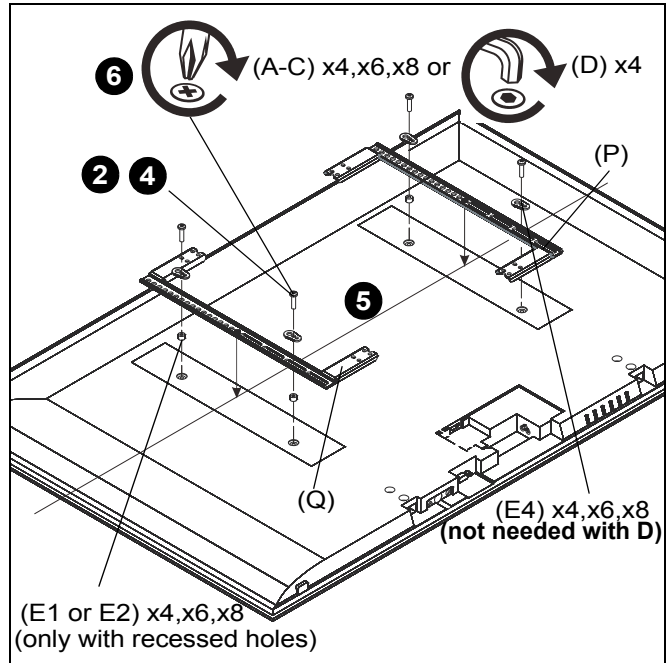
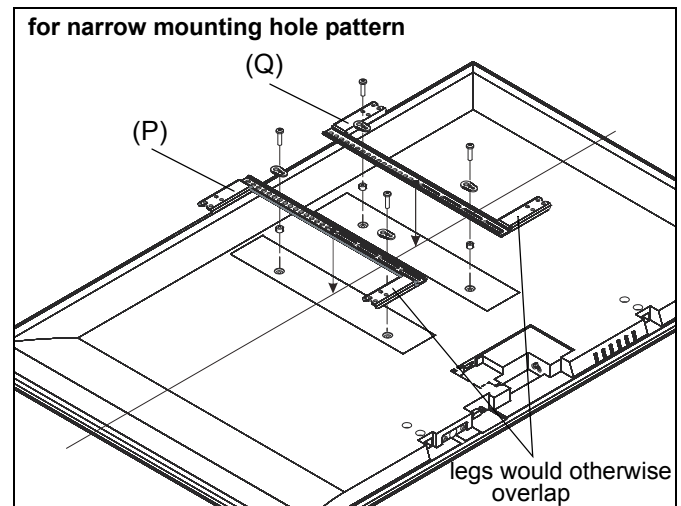

Figure 12
Figure 13
2. Select screw *diameter* by examining hardware (A-D) (4mm, 5mm, 6mm or 8mm) and comparing with mounting holes on display. (See Figure 12)
3. Select spacers: (See Figure 12)
4. Select screw *length*: (See Figure 12)
- NOTE:** Universal washers (E4) are not needed if using M8 button head cap screws (D).
5. Place uprights (P and Q) on display, ensuring: (See Figure 13)
NOTE: If installing to a display with a narrow hole mounting pattern (less than 400mm wide), reverse uprights (P and Q) so that the upright legs do not overlap onto each other. (See Figure 13)
6. Using Phillips screwdriver, carefully install selected screws through universal washers (E4, if required), uprights (P and Q), and spacers (E1 or E2, if required), into display. (See Figure 12)